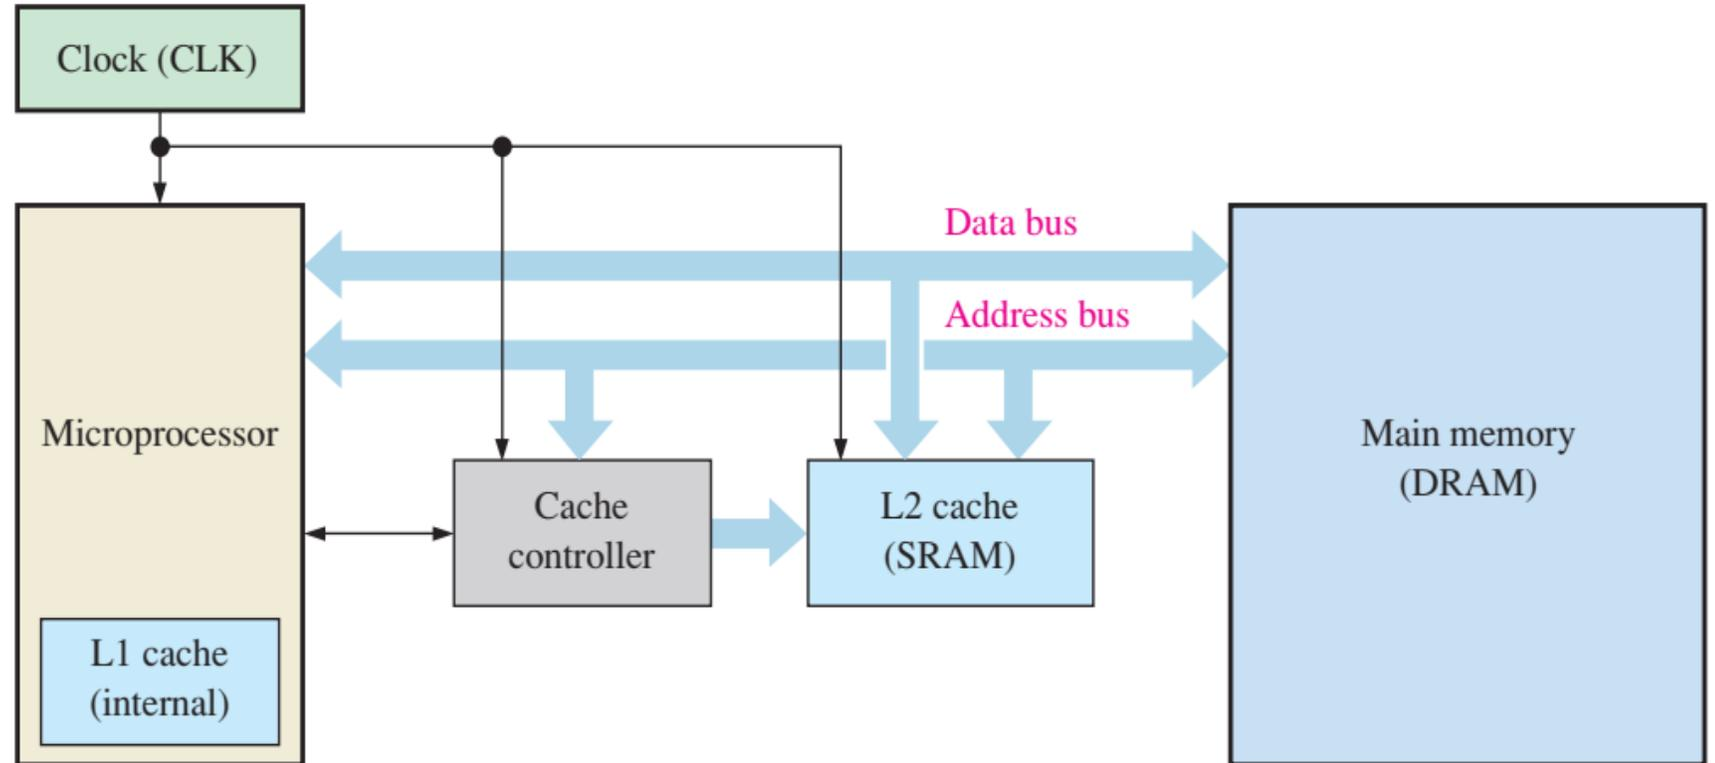

Figure 2-12 L1 and L2 cache memories.
- Figure 2-12 shows L1 and L2 cache memories in a computer system.